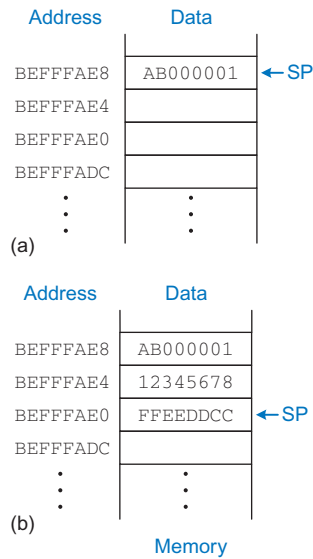

Figure 6.11 The stack (a) before expansion and (b) after two-word expansion
Figure 6.11 shows a picture of the stack. The stack pointer, SP (R13), is an ordinary ARM register that, by convention, *points* to the *top of the stack*. A pointer is a fancy name for a memory address. SP points to (gives the address of) data. For example, in Figure 6.11(a), the stack pointer, SP, holds the address value 0xBEFFFAE8 and points to the data value 0xAB000001.
The stack pointer (SP) starts at a high memory address and decrements to expand as needed. Figure 6.11(b) shows the stack expanding to allow two more data words of temporary storage. To do so, SP decrements by eight to become 0xBEFFFAE0. Two additional data words, 0x12345678 and 0xFFEEDDCC, are temporarily stored on the stack.